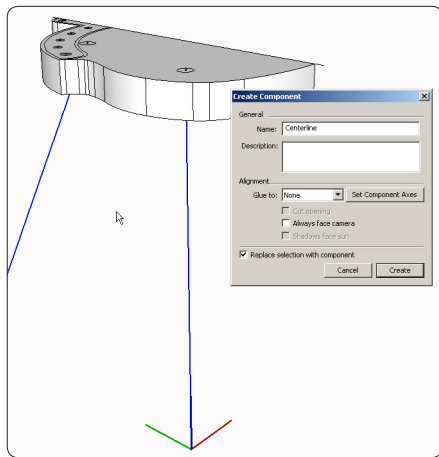

Figure 35. Make the centerlines for the legs a component.
Step 8 Repeat Steps 6 and 7 to create an angled centerline for the rear leg. Select both centerlines and make them a component called Centerline, as shown in Figure 35.